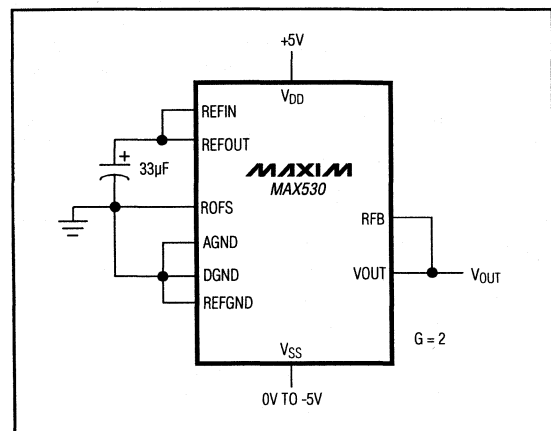

Figure 10. Unipolar Configuration (0V to +4.096V Output)
A 0V to 4.096V unipolar output range is set up by connecting ROFS to AGND and RFB to VOUT (Figure 10). Table 4 shows the DAC-latch contents vs. VOUT. The MAX530 operates from either single or dual supplies in this mode. In this range, $1LSB = (2)(REF_{IN})(2^{-12}) = (REF_{IN})(2^{-11})$.